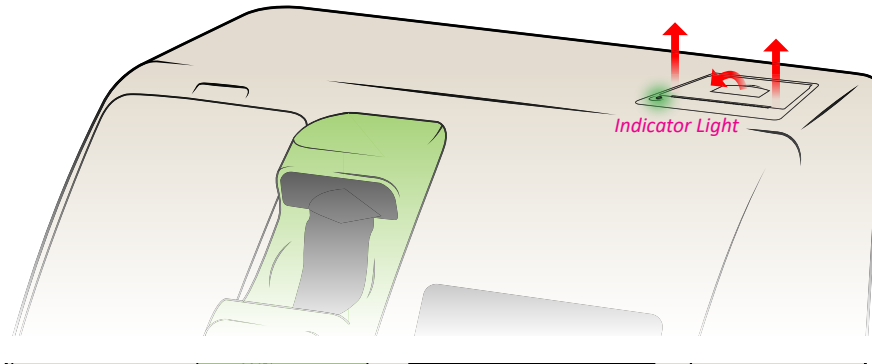

Figure 28
1. Pull the lever in Figure 28 until the lid is released from its locked position.